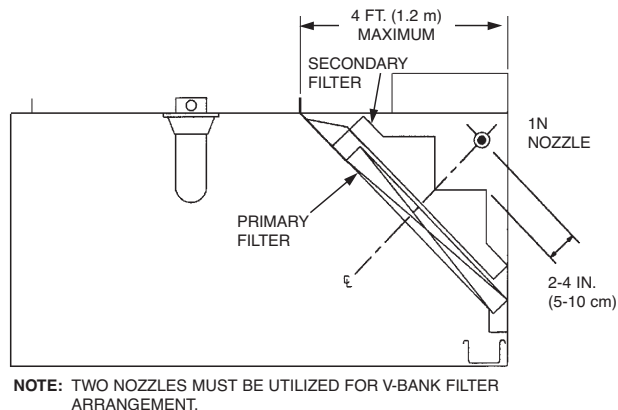

FIGURE 70
The protection required for this application is the same as the standard plenum/filter protection: One (1) 1N Nozzle, Part No. 419335, protecting 10 (3.1 m) linear feet of plenum length by 4 ft. (1.2 m) of plenum chamber depth (width), positioned 2-4 in. (5-10 cm) from peak of secondary filter. See Figure 70.